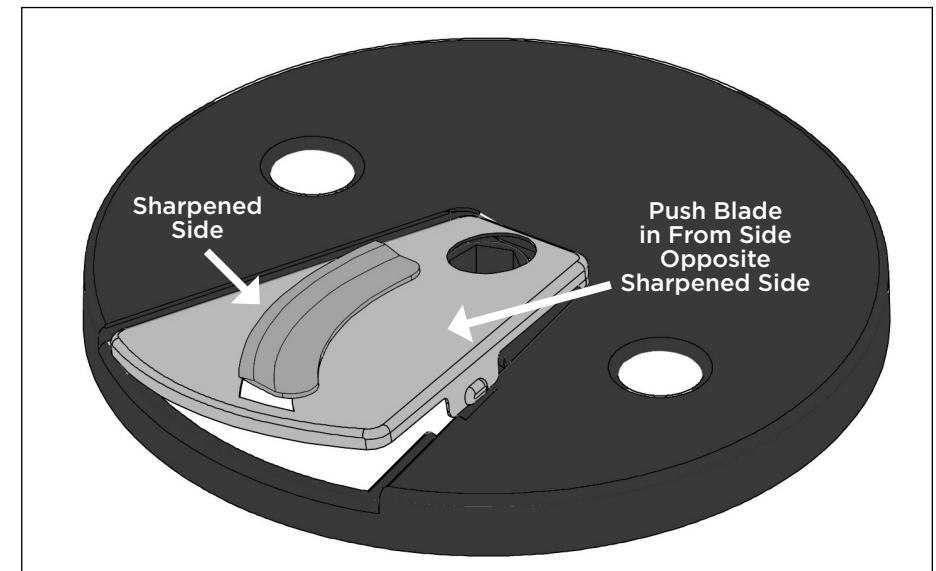

Figure 1
- 2 Hold the selected BLADE opposite the sharpened side and tilt into SLICER/SHREDDER BLADE DISC as shown in Figure 1 at an angle.